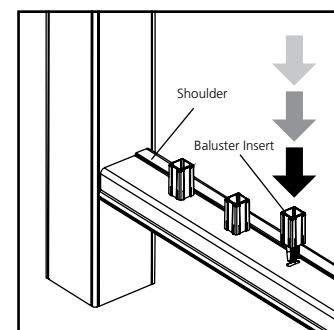

Figure 15
10. Place the bottom rail between the posts and on the crush block. The shoulder on the bottom rail (Fig 15) should be toward the deck side of the rail.
14. Fully engage a baluster insert into each slot on the bottom rail (Fig 15).